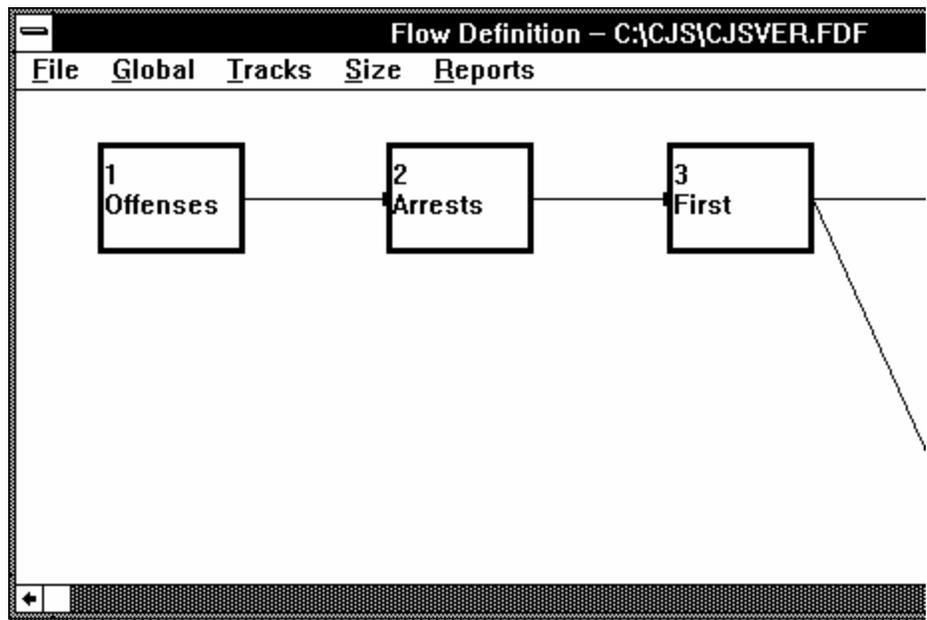

Figure 3-6. The Flow Definition screen with sample model loaded.
7. Click the OK button. The system will display a series of progress messages in the middle of the screen as it loads the files, and then the display of connected stages will appear (such as Figure 3-6).
The display in Figure 3-6 shows only part of the flowchart for the sample model. To see all the stages in the model, you may scroll the display or open the Size dialog box and adjust the size of the stage display.